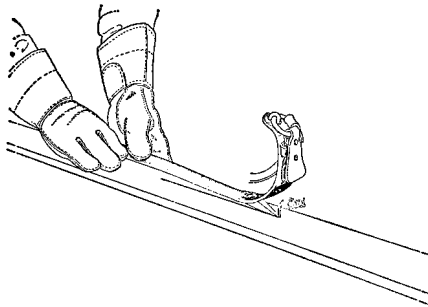

FIGURE 17.
- (2) If the climber gaff slides along the surface of the wood without cutting and leaves only a line or mark on the wood as shown in Figure 17, the point has not been properly sharpened or the outer surface of the gaff is deformed.